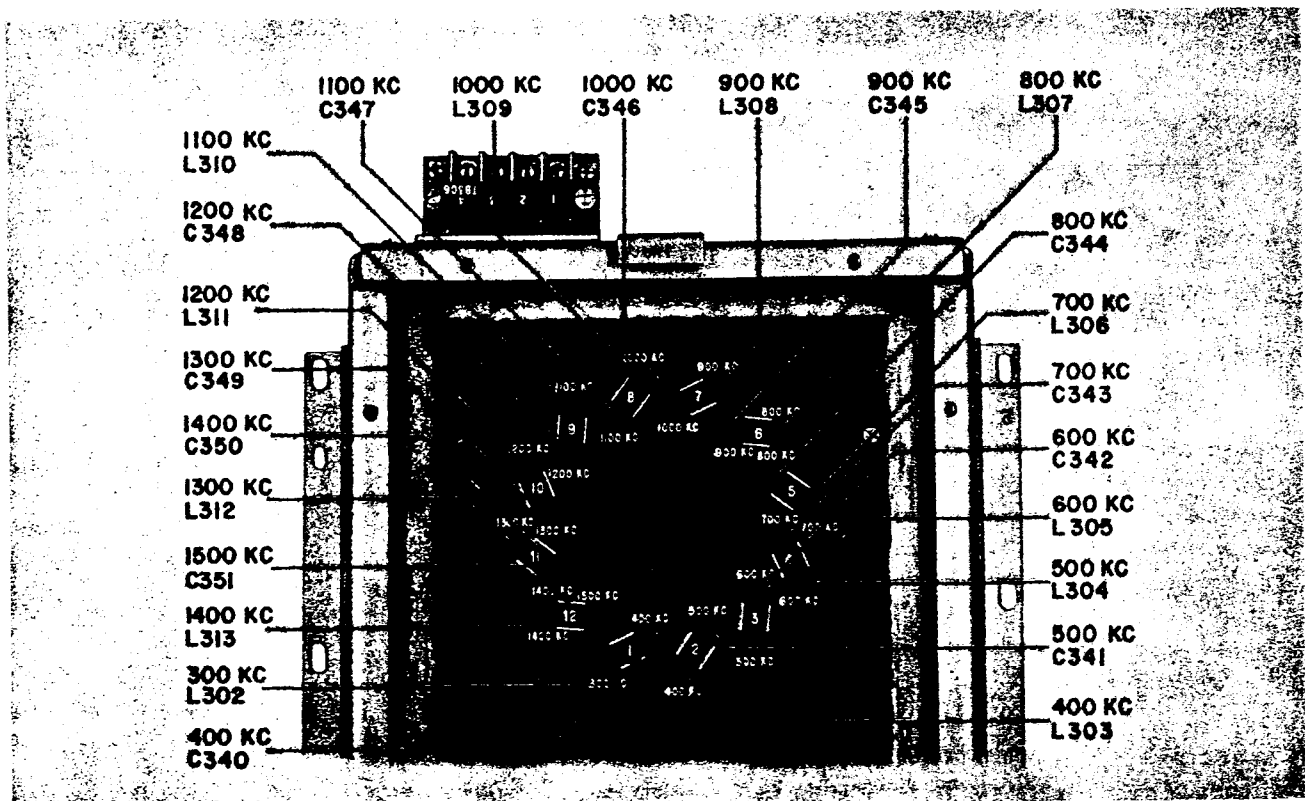

Figure 6-8. Radi Frequency Oscillator O-621/WRT-1, Oven Top View, Electrical Adjustments
on the front panel of Radio Frequency Oscillator O-621/WRT-1. These adjustments must be made whenever a frequency-determining element is replaced including the main tuning capacitor C319. When making the master oscillator tracking adjustments refer to figure 6-8 and proceed as follows:
Step 1. Pull out the drawer containing Radio Frequency Oscillator O-621/WRT-1 to its extreme limit of travel. Engage the interlock switch and remove the top cover of the oven. Refer to figure 6-8 and note that all tracking adjustments can be reached through the special holes provided in the inner oven cover.